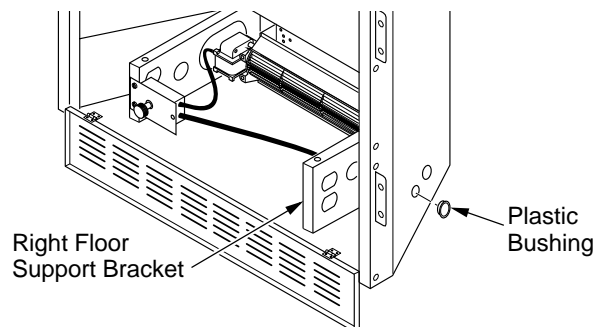

Figure 21 - Installing Plastic Bushing for Power Cord (Right Side Exit Shown)
- a. If your firebox is installed as a freestanding unit with an accessory mantel, determine whether the power cord will exit the left side or the right side of the firebox. Install one plastic bushing provided into the 1 1/2" hole in the floor support on the exit side. Install the second bushing provided into the 1 1/2" hole in the outer casing through which the power cord will exit (see Figures 21 and 22). Route power cord through plastic bushings and plug the power cord into a properly grounded three-prong wall receptacle near the firebox.